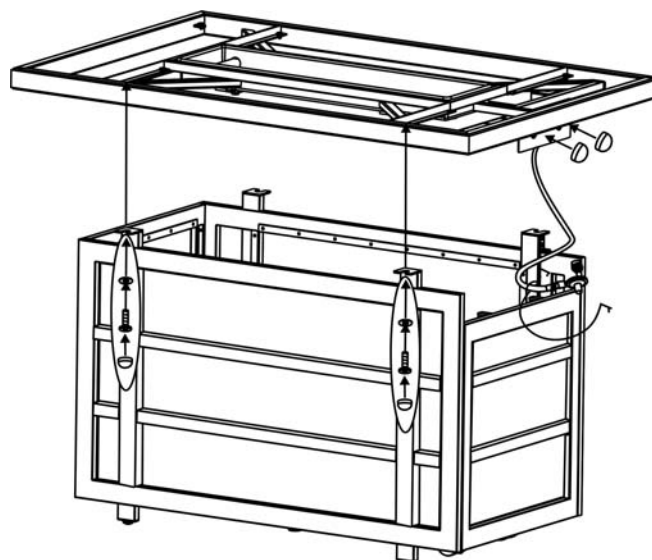

Figure 5
5. With the help of another person, carefully place the firepit table rim onto the firepit base. After making any necessary adjustments to the alignment of the table rim and the assembled base, use four 1/4"x15 mm bolts and Ø20xØ6.5x2.0 mm washers as shown in Figure 5. Guide the bolts through the holes in the side panel brackets, into the predrilled holes in the table rim. **Hand tighten only.**